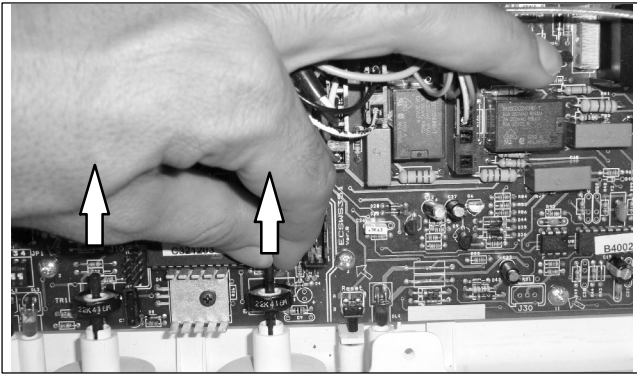

Fig. 37
- 3 Remove the spindles of the c.h. and d.h.w. temperature adjustment knobs by delicately pulling them with pliers in the direction shown by the arrow in Fig. 37.